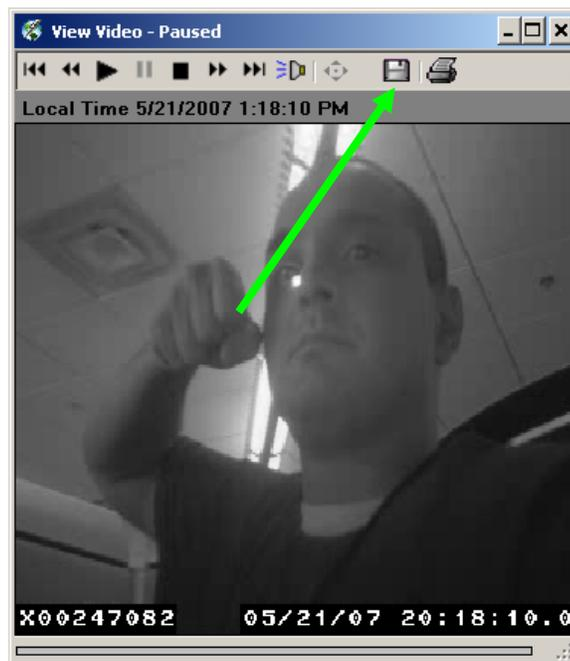

Figure 24
- To save a still image of the current frame in the video, click the disk icon (Figure 24).